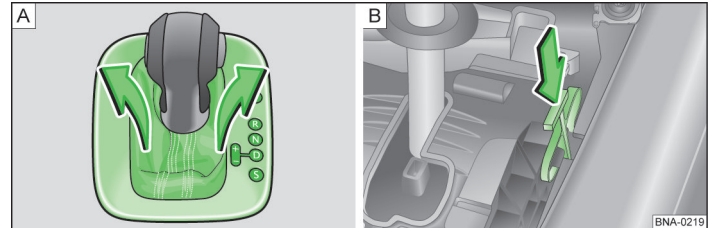

Fig. 73 Remove the cover of the shift gate / Emergency unlock the release lever lock
- Pull the cover around the selector lever gaiter upward » fig. 73 - .
- Push the unlock lever » fig. 73 -  in the direction of the arrow and hold in this position.